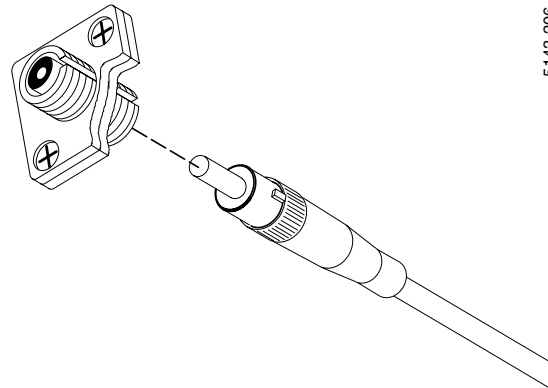

Figure 2-35. Fiber-Optic FC/PC Connector
2. Hand-tighten the cable nut to the Fiber module connector. See Figure 2-35.